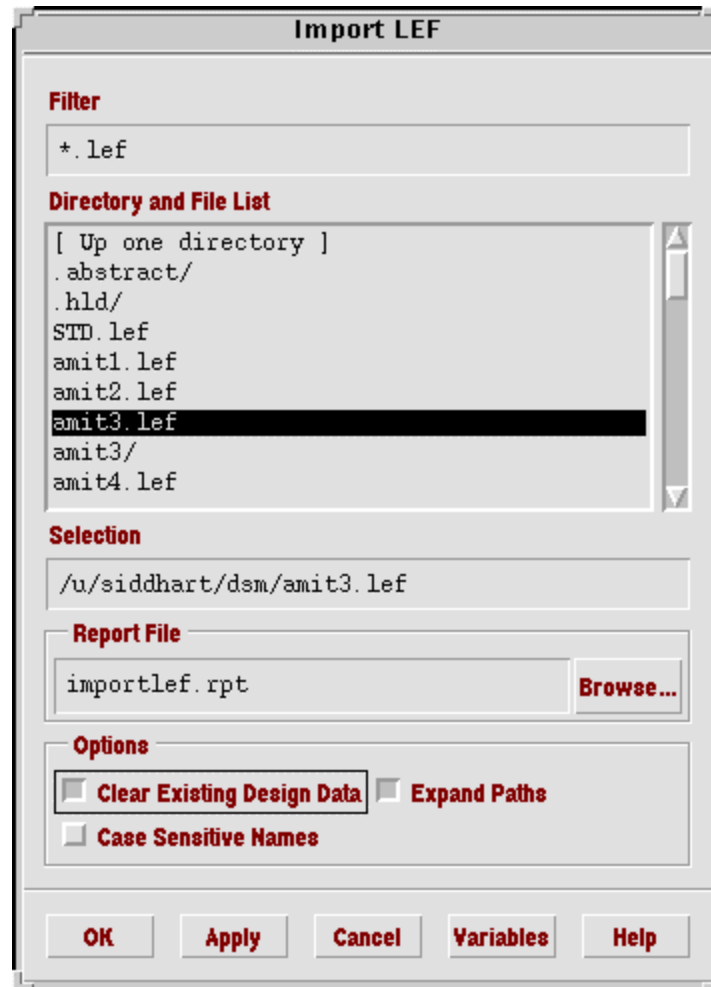

Fig 2: Import LEF
2. The “Import LEF” window opens as shown in Fig 2. Select your LEF file.